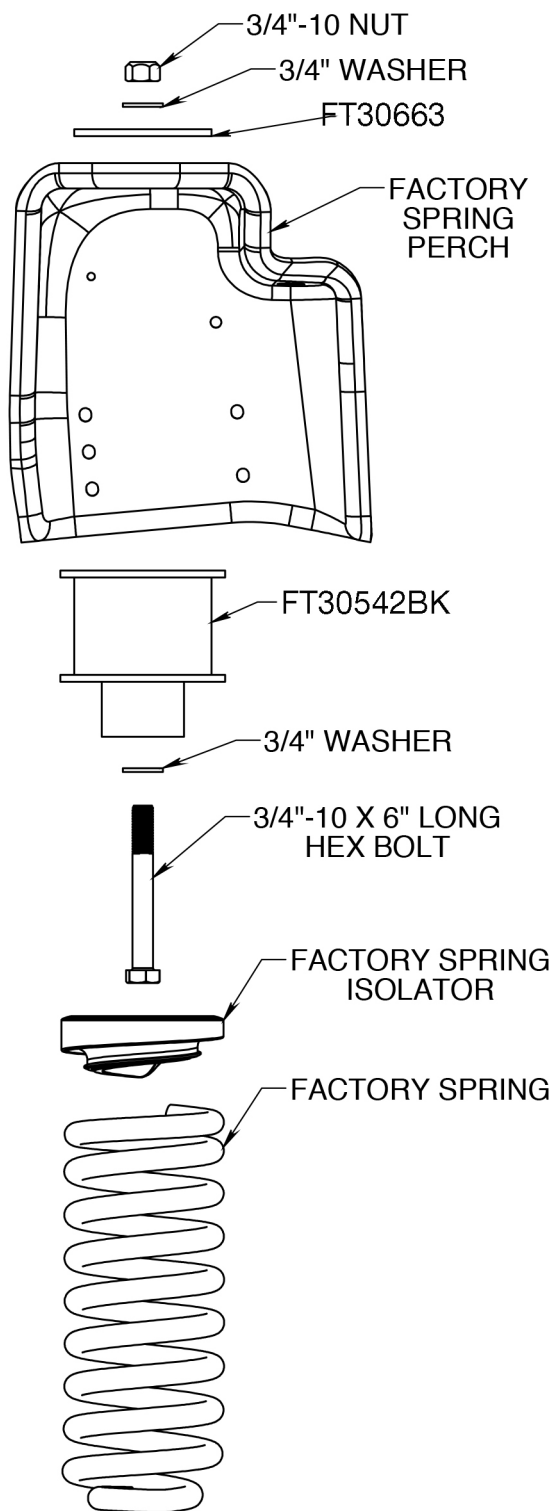

FIGURE 17 - STEP 18
18. Locate the FT30542BK (Coil spacer), $\frac{3}{4}$ -10 x 6" bolt and the FT30663 washer. Install all the components into the factory coil bucket in the order shown below using the original factory upper coil isolator. Torque the $\frac{3}{4}$ " bolt to 129 ft-lbs. **SEE FIGURE 17**
19. **2017-2019 Models** - Locate and install FT30664 (ABS Bracket) in the same location as the factory bracket previously removed using the factory nuts on the spring perch and the supplied 3/8" X 1-1/4" hardware. Torque to 52 ft-lbs. **SEE FIGURE 17**